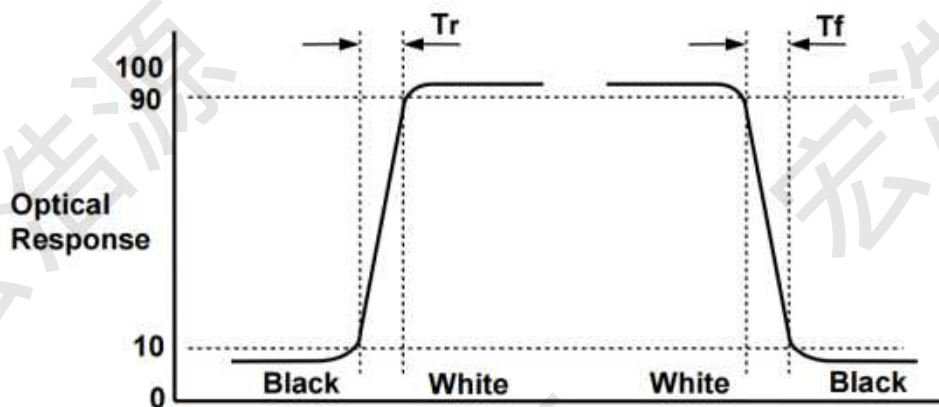

FIG. 8 Response Time
2. Response time is the time required for the display to transit from black to white (Rise Time,  $Tr_R$ ) and from white to black (Decay time,  $Tr_D$ ). For additional information see the FIG. 8.